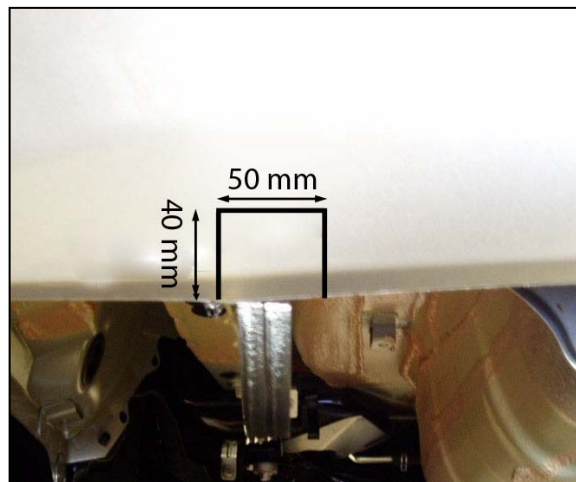

Figure 1 - Bumper cut for side arm
- e) Remove the panels on the rear bumper to access the bolts securing the bumper to the body on both driver & passenger sides as shown in figure 1.
- 15 Temporarily refit the bumper to the vehicle and mark the location of the towbar side arms. Cut the bumper at two places allowing 3-5mm each side as per figure 1.